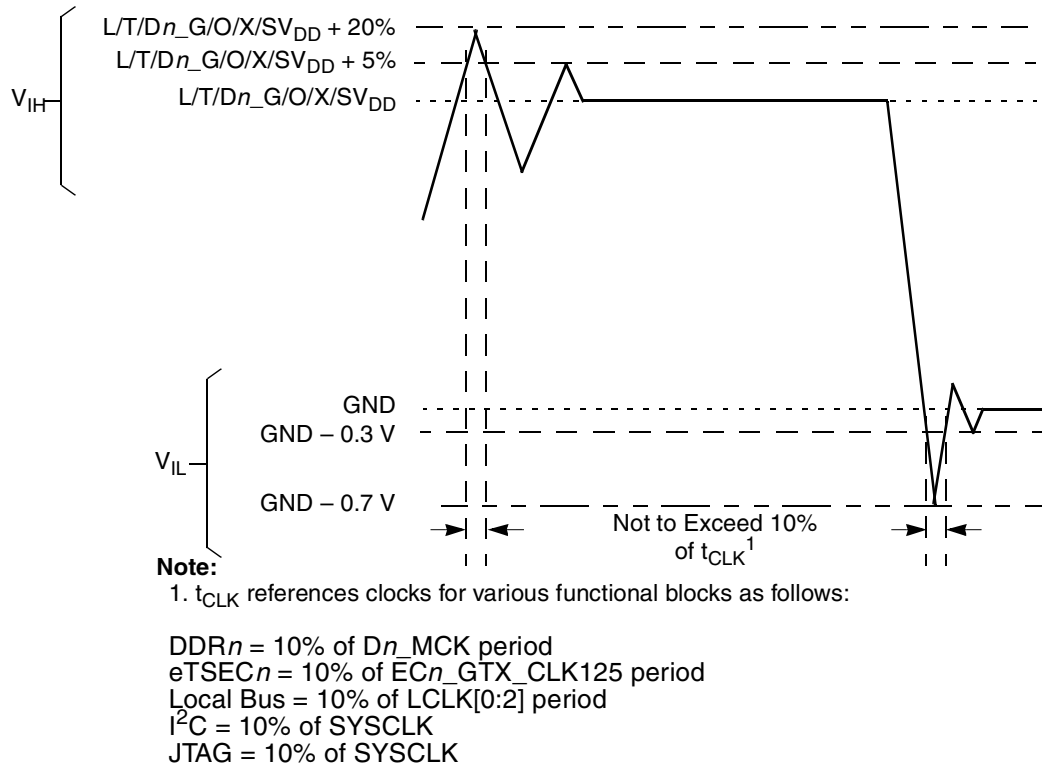

Figure 2. Overshoot/Undershoot Voltage for $Dn_M/O/L/TV_IN$
- During run time (M,L,T,O) V_{IN} and Dn_MV_{REF} may overshoot/undershoot to a voltage and for a maximum duration as shown in Figure 2.
- Caution:** Dn_MV_{IN} must meet the overshoot/undershoot requirements for Dn_GV_{DD} as shown in Figure 2.
- Caution:** L/TV_{IN} must meet the overshoot/undershoot requirements for L/TV_{DD} as shown in Figure 2 during regular run time.
- Caution:** OV_{IN} must meet the overshoot/undershoot requirements for OV_{DD} as shown in Figure 2 during regular run time.
- Timing limitations for M,L,T,O) V_{IN} and Dn_MV_{REF} during regular run time is provided in Figure 2
Figure 2 shows the overshoot and undershoot voltages at the interfaces of the MPC8641.